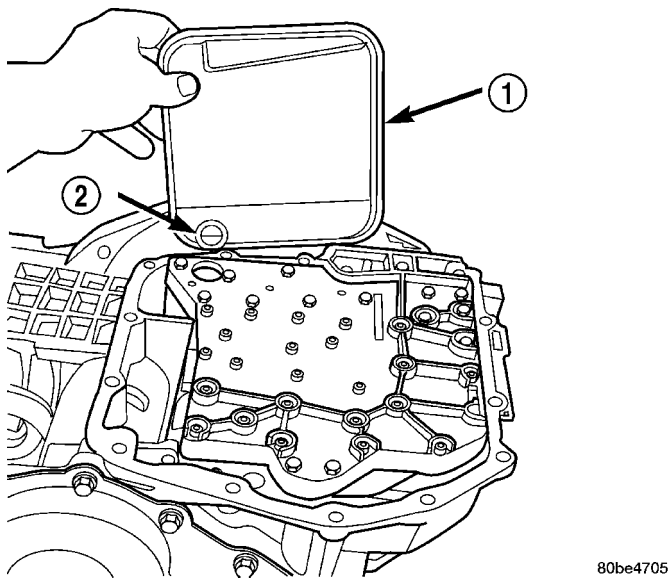

Fig. 313 Oil Filter
(7) Remove oil filter (Fig. 313).